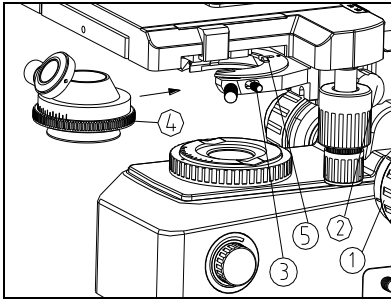

Fig.5
- (1) Rotate the coarse focusing knob ① to raise stage to the highest. (See Fig. 5)
- (2) Rotate the condenser up-down knob ② to lower the condenser bracket to the lowest.
- (3) Loosen the condenser lock-screw ③ fully.
- (4) Swing out the front lens of condenser with the scale forward. Make the lock screw ④ of condenser in alignment with the groove ⑤ of the condenser stand. Push the condenser into the innermost of stand.
- (5) Screw down the condenser lock-screw ③, and raise the condenser to the highest position with the condenser up-down knob ②.